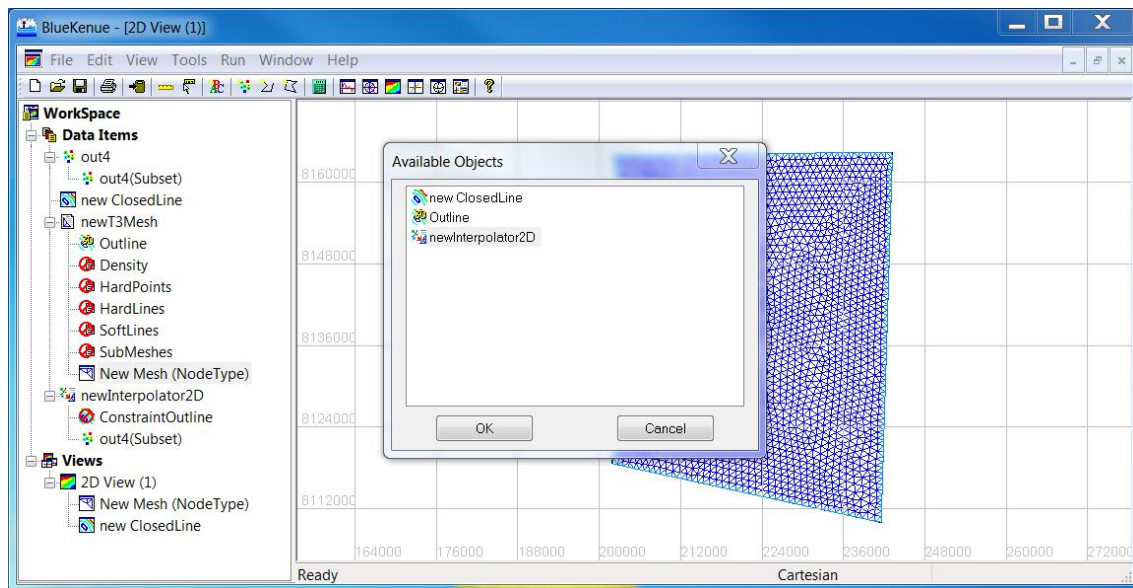

Figure A113: Choose Tools>Map Object and select newInterpolator2D.
12. Choose New2DInterpolator (Figure A113) Page 93